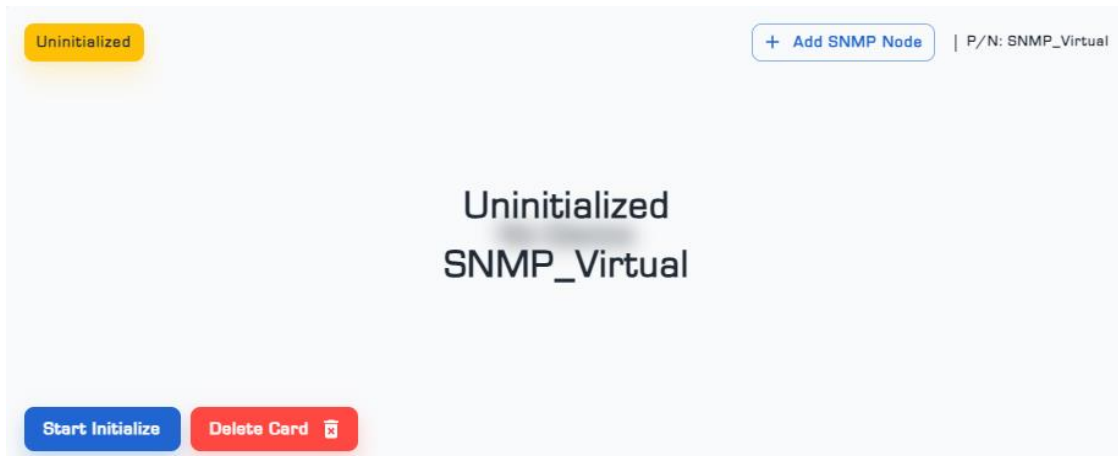

Figure 29: The added virtual SNMP card is without initial configuration.
(2) To perform the initial configuration of the card, click on the 'Start Initialize' option (Figure 29).